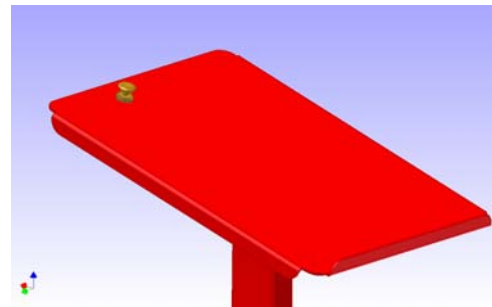

Figure 5
The lock release is a pneumatic valve that must be pressed to deactivate the lock arm and lower the Pit Boss (see Figure 5).
1. Activate lock arm release by depressing and holding the brass button on the pump stand. (See figure 5)